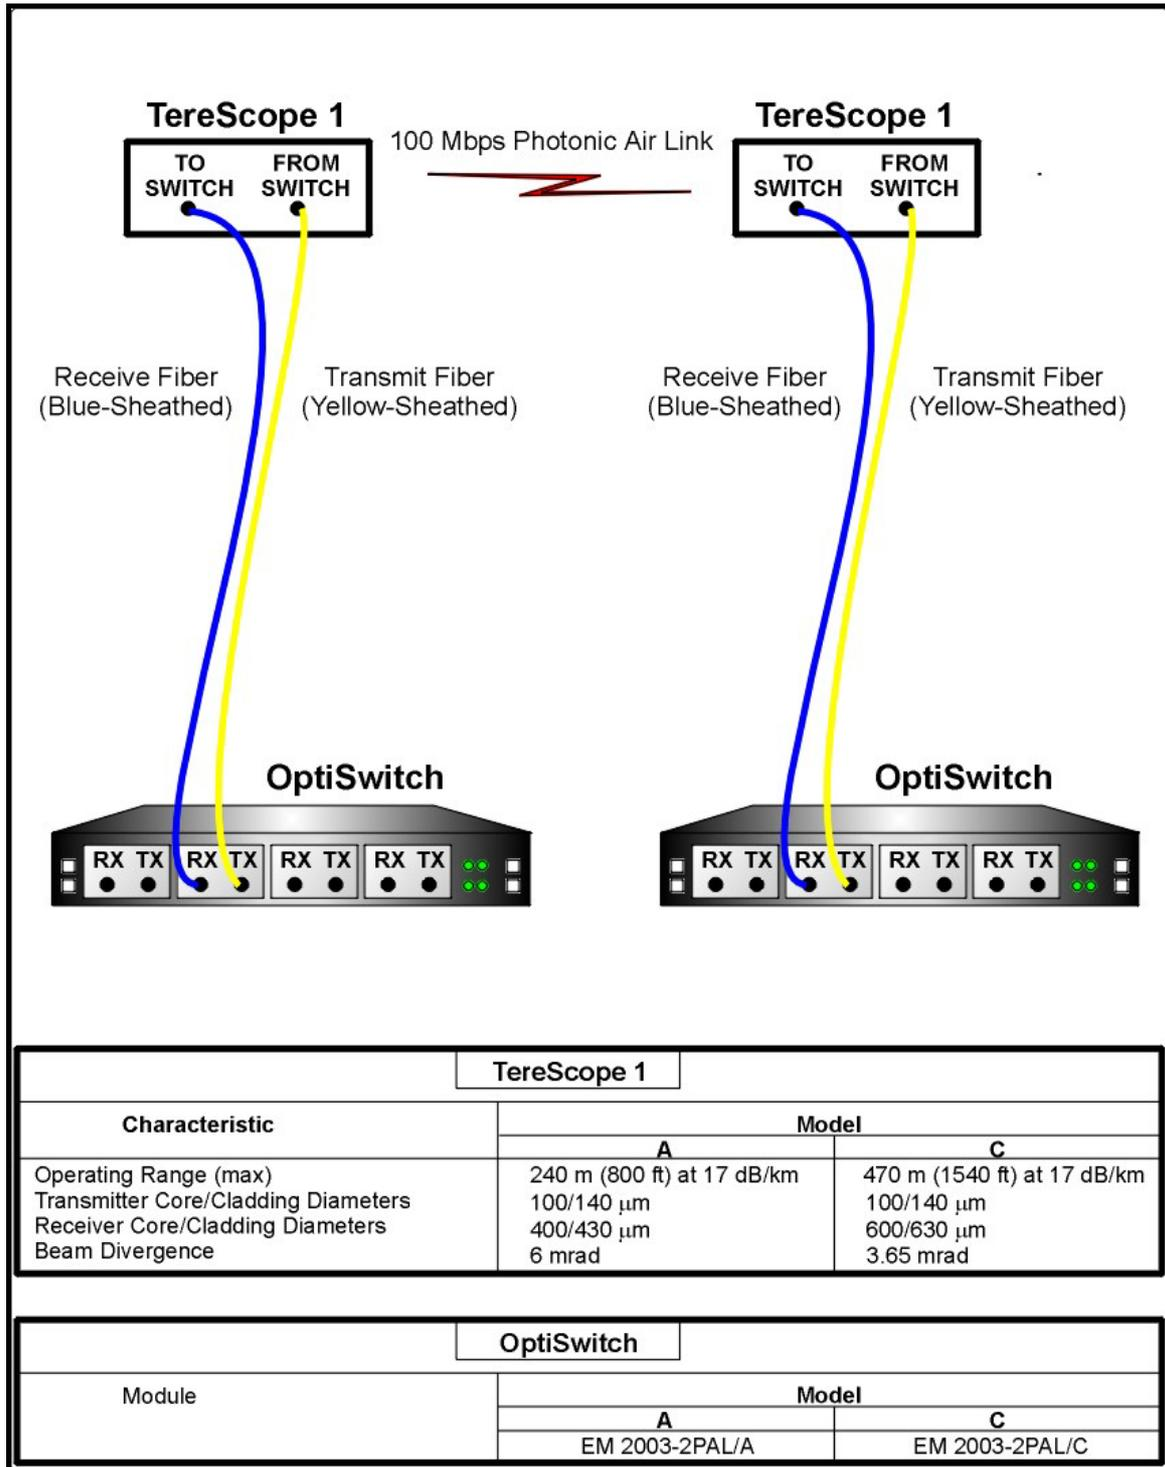
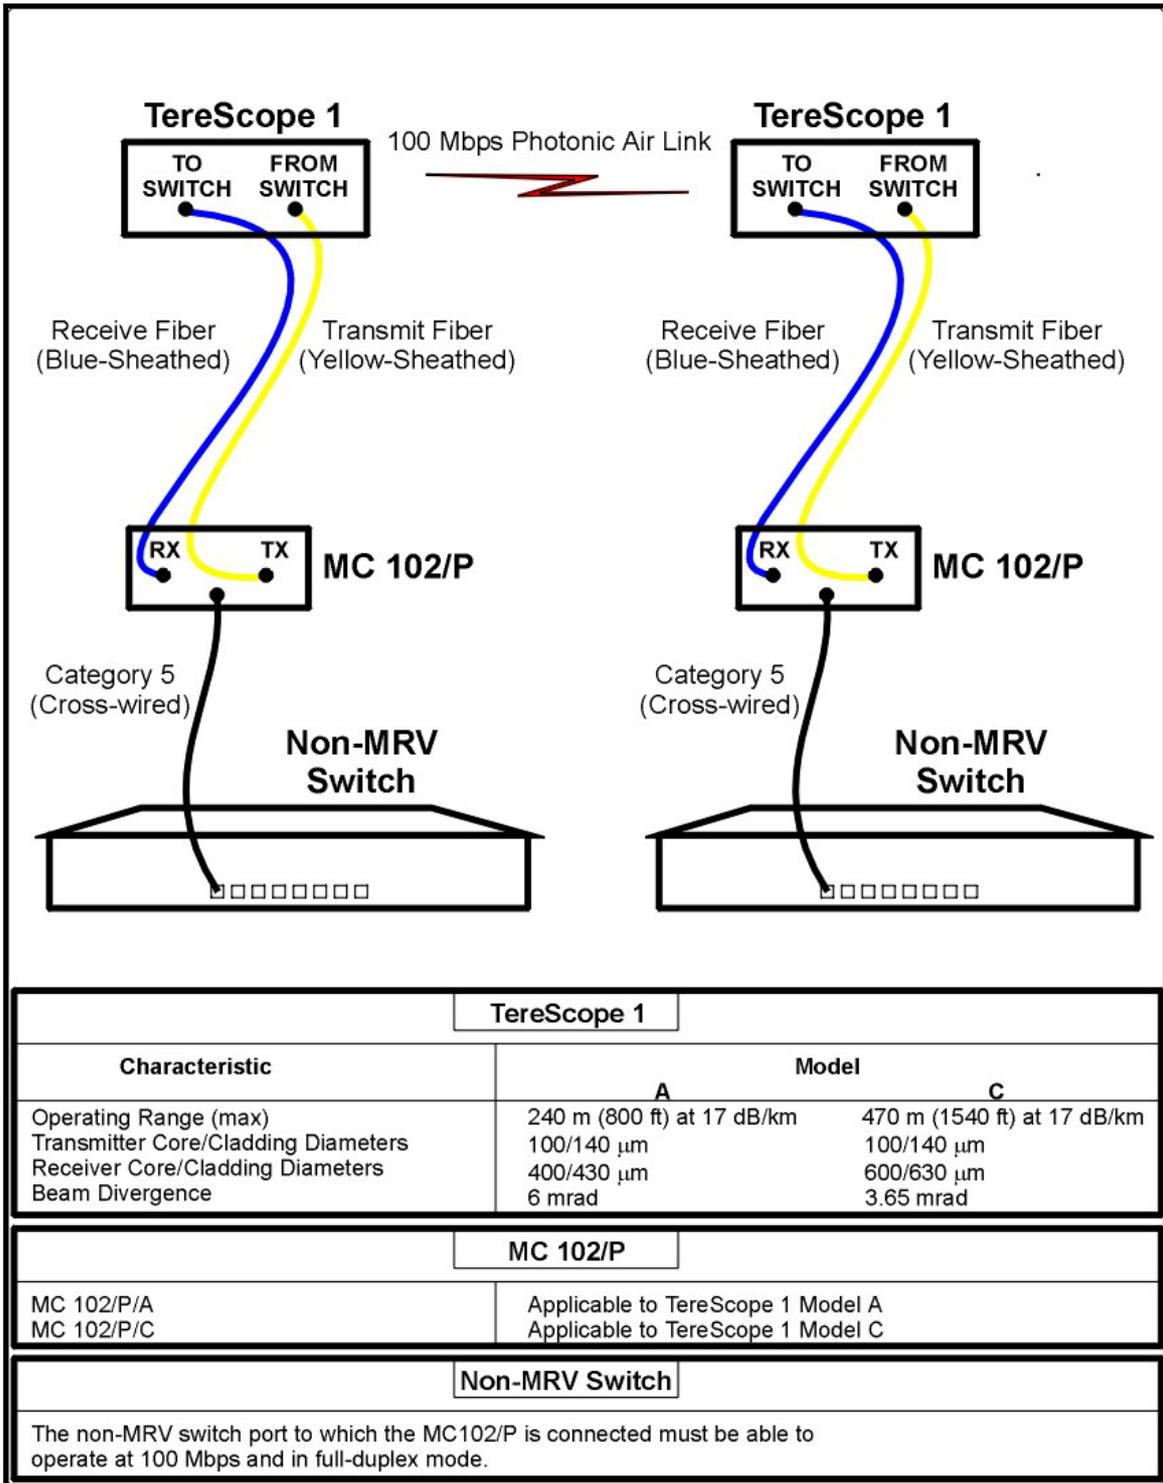

Figure 29: Interconnection of TereScope 1s and OptiSwitches
Figure 30: Interconnection of TereScope 1s, Media Converters, & Non-MRV Switches
- a. Connect one end of the yellow-sheathed cable to an OptiSwitch module or Media Converter and the other end to the TereScope 1's **FROM SWITCH** connector, as shown in *Figure 29* and *Figure 30* or
8. If you have MRV⁹ OptiSwitches, connect the TereScope 1s as shown in *Figure 29*.
If you do not have OptiSwitches, connect the TereScope 1s to switches via MRV MC102/P as shown in *Figure 30*.
In the network in Figure 29, perform ping test for the remote OptiSwitch to check if link connectivity is OK.
In the network in Figure 30, perform ping test for the remote Non-MRV switch to check if link connectivity is OK.